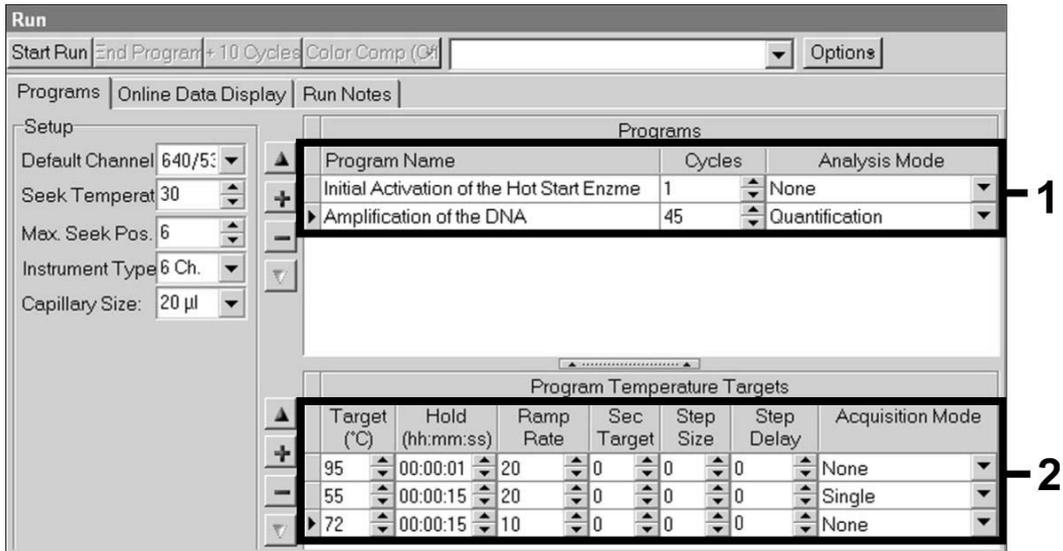

Fig. 7: Amplification of the DNA.
- B. Amplification of the DNA Fig. 7